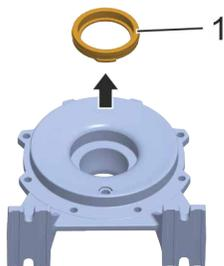

Fig. 68 Removing the impeller protector
20. Remove the impeller protector (Fig. 68/1) and place it to one side for later assembly.